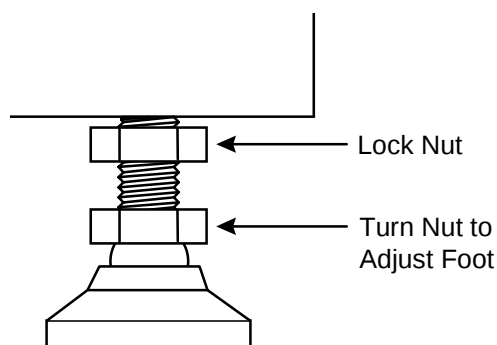

Figure 2-1: Leveling Foot
- Adjust the leveling feet as needed. To adjust a leveling foot, turn the nut located just above the base of the foot (see Figure 2-1).
- Once the leveling feet have been adjusted, tighten the lock nut on each foot against the underside of the scale base (see Figure 2-1).